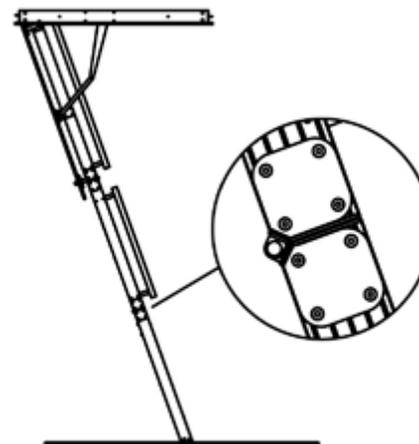

Figure 5
3. Turn the adjusting screws clockwise or anti clockwise, this will change the angle of the door until the feet touch the floor and section gaps are closed, as shown in figure 5 on page 7. Make sure both screws are adjusted the same length.
4. Tighten the lock nuts and re-check that both screws are the same length and it looks like figure 5 on page 7.